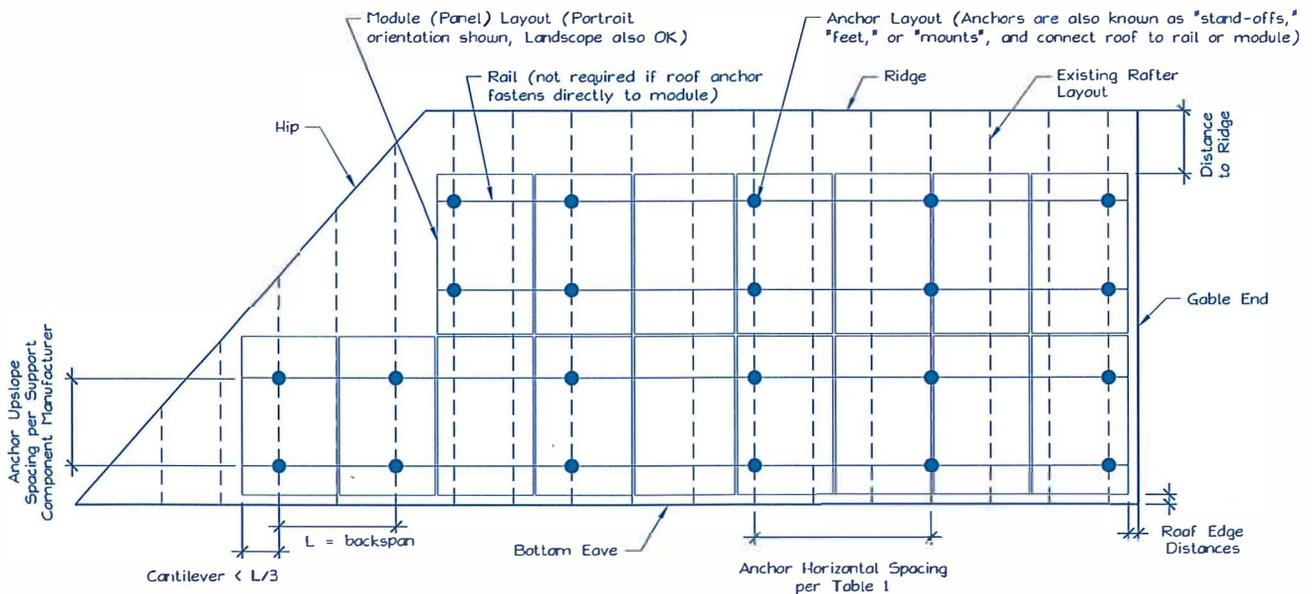

Figure 2. Sample Solar Panel Array and Anchor Layout Diagram (Roof Plan).
E. Is a roof plan of the module and anchor layout attached? (see Figure 2)
- 1) Proposed anchor horizontal spacing (see Figure 2): _____ "ft-in
1. Anchors are also known as "stand-offs", "feet", "mounts" or "points of attachment". Horizontal anchor spacing is also known as "cross-slope" or "east-west" anchor spacing (see Figure 2).